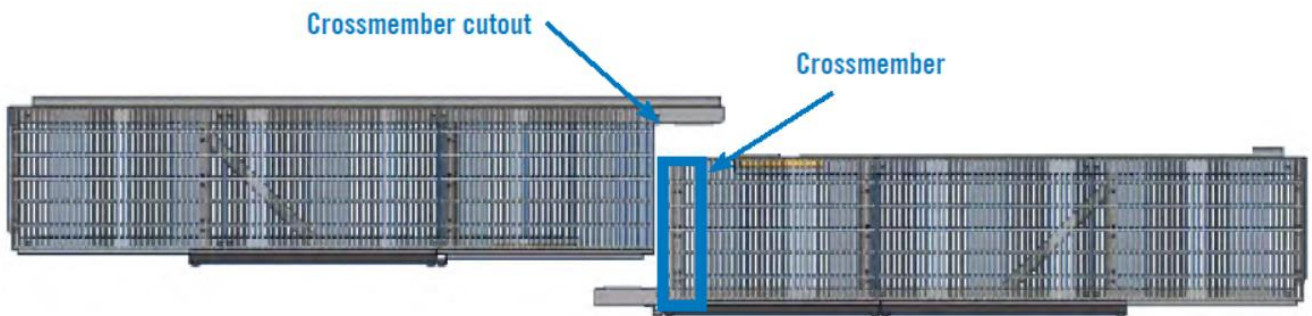

Figure 15. Platform Assembly Alignment
2. Unbolt the splice plates from both sides of the platform, but DO NOT remove the plates from the support beam channel. Slide the loose plates to the locations shown in **Figure 15, Detail A and B**.